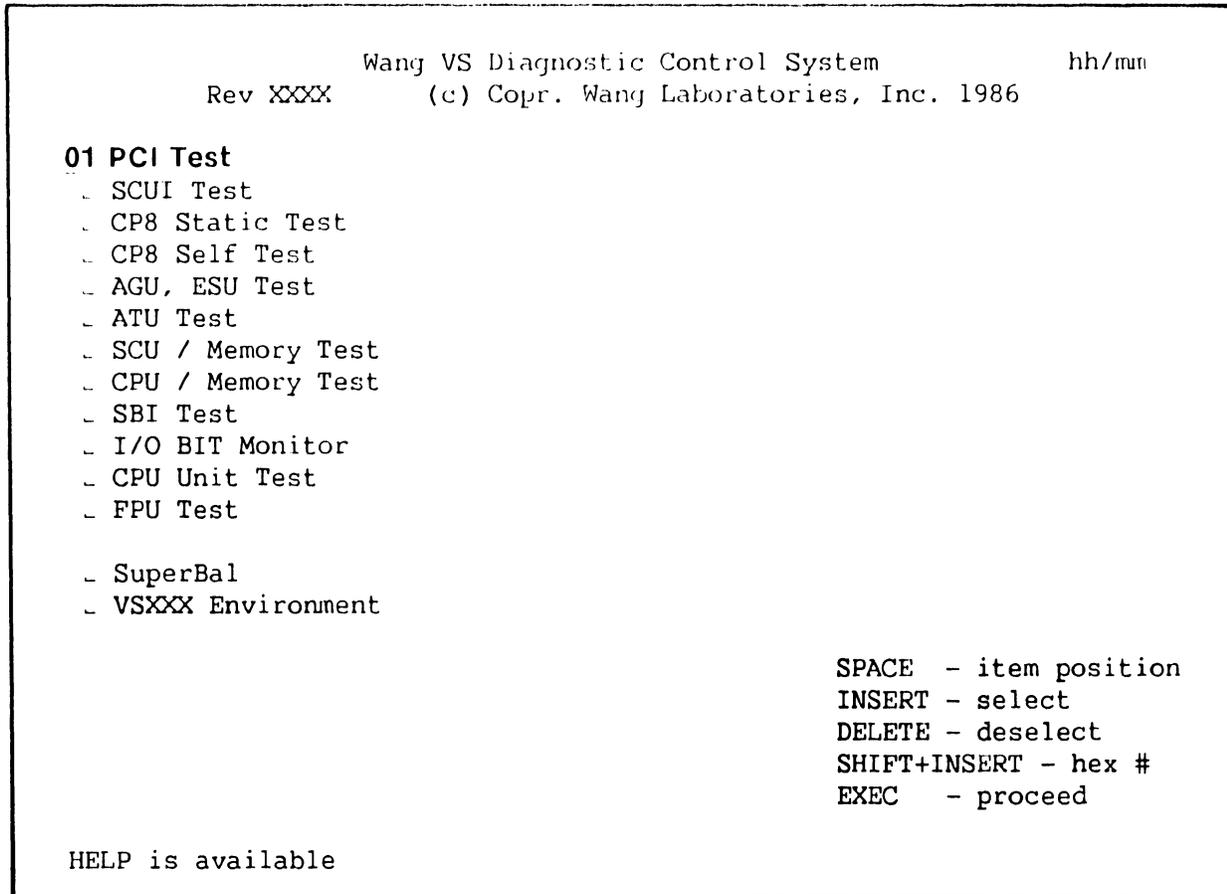

Figure 6-5. DCS Diagnostic Selection Menu Screen
6. From the Diagnostics Disclaimer screen, press EXEC to bring up the DCS Diagnostic Selection Menu. See figure 6-5.
To choose a particular diagnostic from the DCS Menu (figure 6-5 above), position the cursor next to the desired diagnostic using the SPACEBAR, press SHIFT+INSERT to select the diagnostic and to enter the element value. (Both will be highlighted).